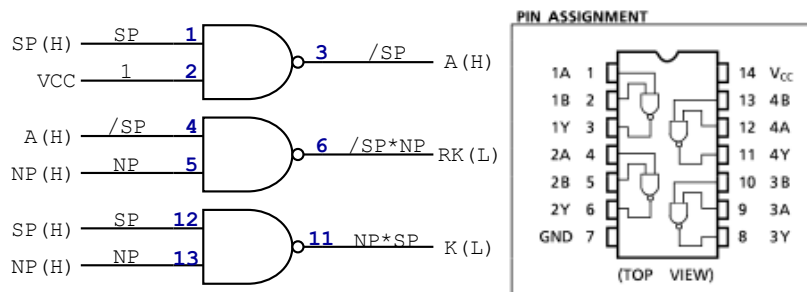

Figure 3: Your labeled logic circuit diagram (left) and a top view of the TC74AC00PF IC from its datasheet (right).
- o Your name in the schematic’s first author bullet point and an attribution on the PCB like figure 3.